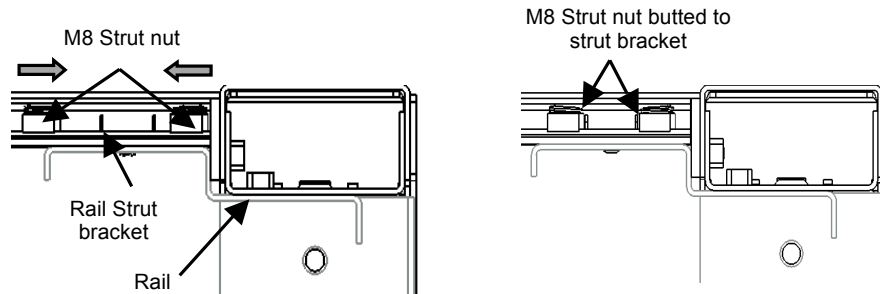

Fig. 7
3. Fasten rail using two M8X20mm Hex screws onto two M8 Strut nuts in frame slides (Fig. 7 and 8). Tighten to approximately 168 in-lbs. [19 N-m].